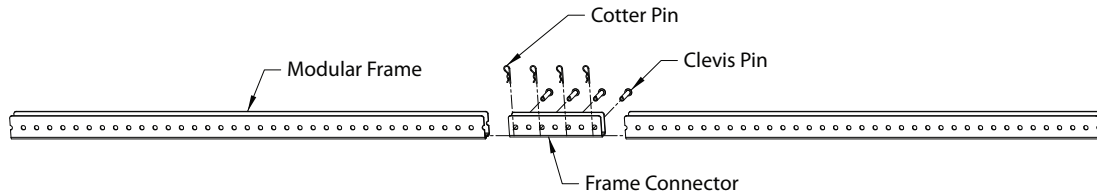

fig 1.1
4. Connect the modular frame pieces using the included cotter and clevis pins. Refer to fig 1.1 for proper cotter and clevis pin placement. Be sure each clevis pin is properly secured with a cotter pin.